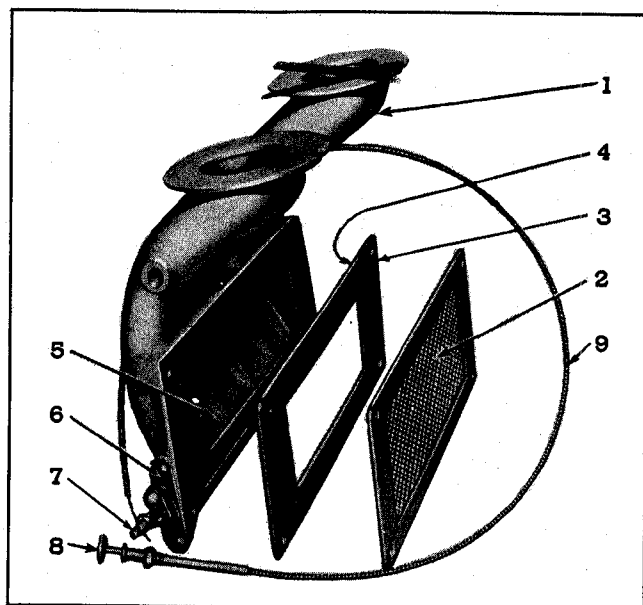

Fig. 9—Manually Operated Emergency Engine Shut-Down Assembly.
The manually operated shut-down device shown in Fig. 9 is operated by a knob (8), located on the instrument panel and connected to the valve shaft lever by a control wire (9). Pulling the knob all the way out will stop the engine. Push the knob all the way in to reset valve after engine has been stopped.